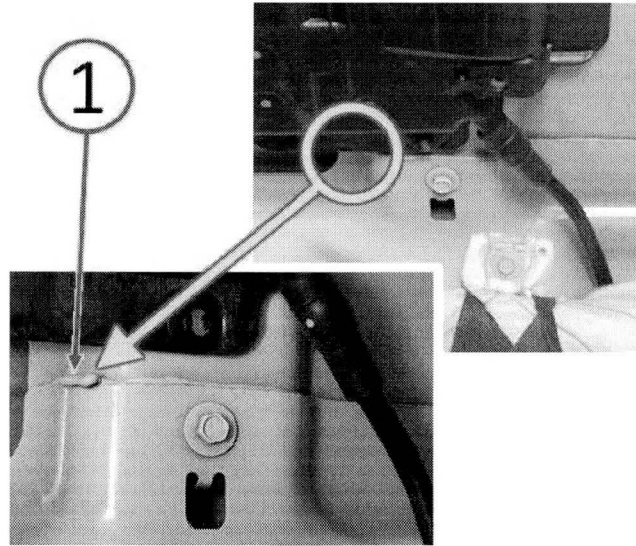

Fig. 3 Visually Inspect For Adhesive
8. Visually inspect for adhesive filling the space between the sheet metal structural components at C-pillar nearest rear corner of sunroof module where the noise was heard. Can adhesive be seen filling the space identified in (Fig. 3)?
- a. Yes>>> Repeat the diagnostic test of pushing upward on the dual pane sunroof rear panel at the rear corner with increasing pressure then release while listening for creak/groan noise as was done in Step #1 to ensure that the noise is actually coming from the area identified in (Fig. 3) before proceeding to Step #9. If noise is not coming from this structural joint, than this bulletin does not apply and further diagnosis is required.